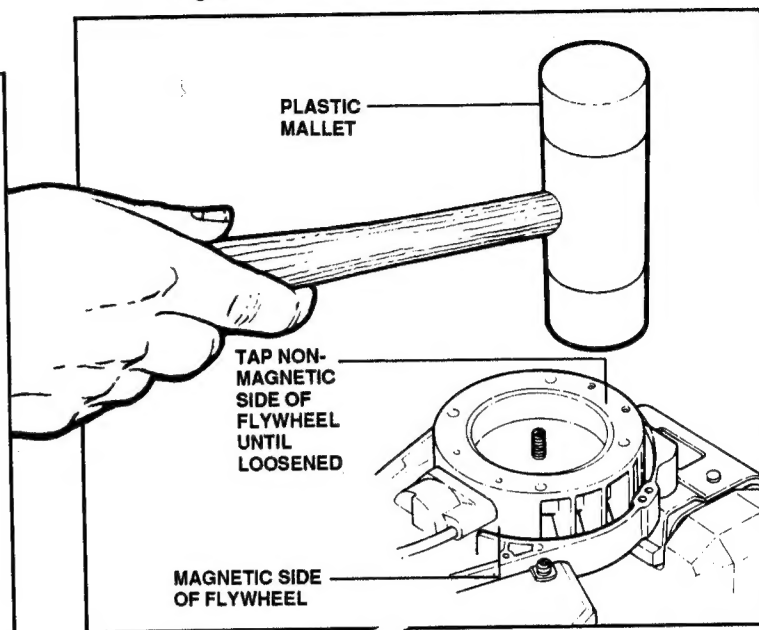

FIGURE 7
1. Remove the flywheel by holding the engine slightly off the table and tapping the non-magnetic side of the flywheel with a plastic hammer. Once loosened, pull the flywheel off the crankshaft. See Figure 7.